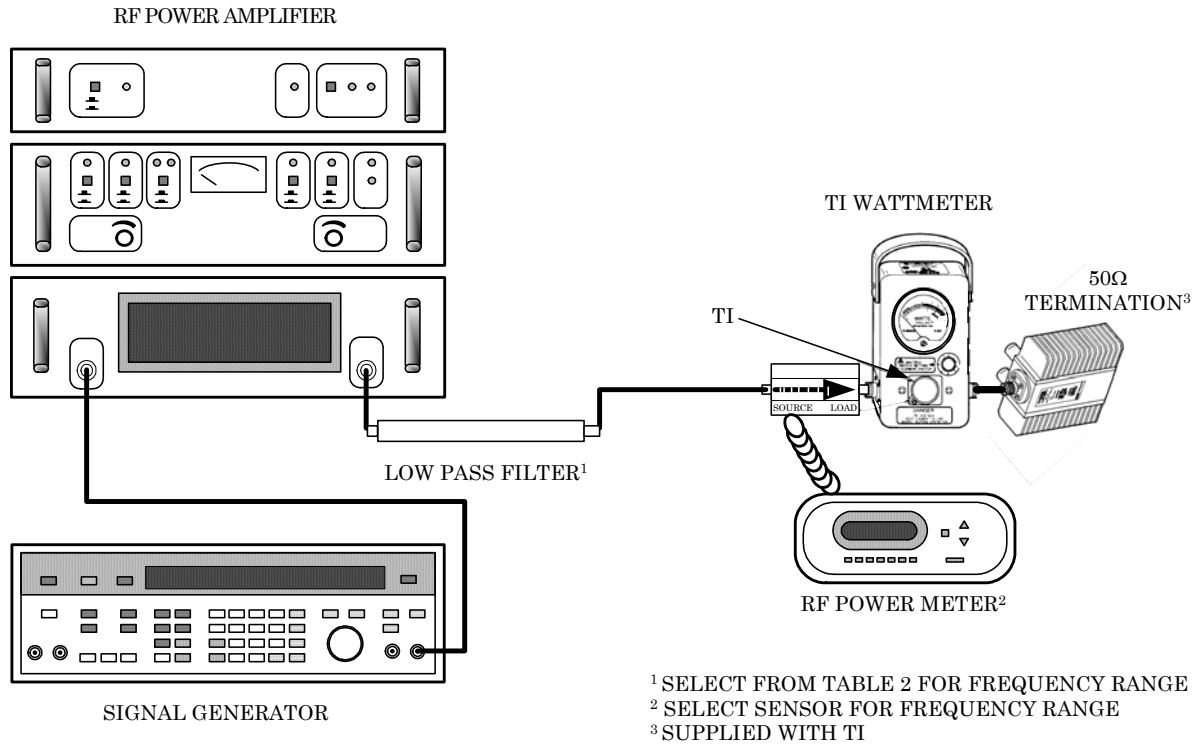

Figure 2. Plug-in element calibration - equipment setup.
- (1) Connect equipment as shown in figure 2.
- (2) Insert plug-in element into wattmeter and rotate it until the arrow points in the direction of 50  $\Omega$  termination.
- (3) Set factor switch to 1 position and allow equipment to warm-up for 5 minutes.
- (4) Adjust RF power generator frequency controls for a frequency counter indication of 1000 MHz.
- (5) Adjust RF power generator amplitude controls for a TI wattmeter indication of 8 W. RF power meter will indicate between 7.5 and 8.5 W.
- (6) Repeat (4) and (5) above for 750, 400, and 200 MHz.
- (7) Remove TI from wattmeter.
- (2) Insert TI into wattmeter and rotate TI until the arrow points in the direction of 50  $\Omega$  termination.
- (3) Set factor switch to 1 position and allow equipment to warm up for 5 minutes.
- (4) Adjust RF power generator frequency controls for a frequency counter indication of 200 MHz.
(1) Connect equipment as shown in figure 2.
(2) Insert TI into wattmeter and rotate TI until the arrow points in the direction of 50  $\Omega$  termination.
(3) Set factor switch to **1** position and allow equipment to warm-up for 5 minutes.
(4) Adjust RF power generator frequency controls for a frequency counter indication of 80 MHz.
(5) Adjust RF power generator amplitude controls for an RF power meter indication of 8 W. TI will indicate between 7.5 and 8.5 W.
(6) Repeat (4) and (5) above for 60 and 25 MHz.
(7) Remove TI from wattmeter.
(3) Set factor switch to **0.1** position and allow equipment to warm-up for 5 minutes.
(4) Adjust RF power generator frequency controls for a frequency counter indication of 30 MHz.
(5) Adjust power generator amplitude controls for a TI indication of 8.0 W. Power meter will indicate between 7.5 and 8.5 W.
(6) Set factor switch to **1** position and allow equipment to warm-up for 5 minutes.
(7) Adjust signal generator frequency controls to 10 MHz and amplitude controls for an 80 W indication on TI wattmeter. RF power meter will indicate between 75 and 85 W.
(8) Adjust signal generator frequency controls to 2 MHz and amplitude controls for an 80 W indication on TI wattmeter. RF power meter will indicate between 75 and 85 W.
(4) Adjust signal generator frequency controls to 2.5 MHz.
(5) Adjust signal generator amplitude controls for a TI wattmeter indication of 80 W. RF power meter will indicate between 75 and 85 W.
(6) Adjust signal generator frequency controls to 1.0 MHz and amplitude controls for an 80 W indication on TI wattmeter. RF power meter will indicate between 75 and 85 W.
(7) Adjust signal generator frequency controls to 450 kHz and amplitude controls for an 80 W indication on TI wattmeter. RF power meter will indicate between 75 and 85 W.